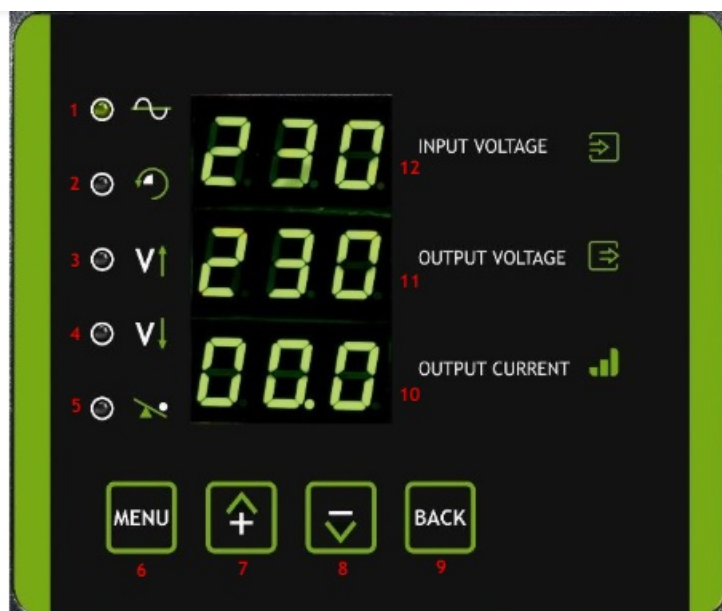

Figure 1 - Front panel display FSTESM7K5MBD and FSTESM10KMBD
- It consists of MCU control unit, voltage regulator unit, servo-assisted motor, and input/output protection components, etc. (see figure 1).